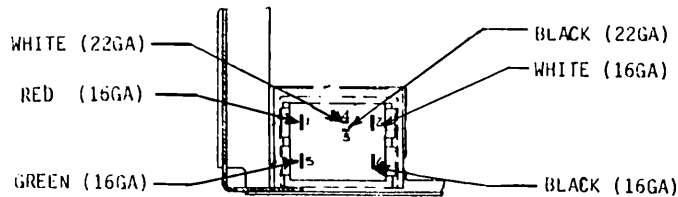

Figure 4-15. Rear View of Switch
9. Viewing the switch from the back of the unit, connect the terminal lugs to the switch as shown in Figure 4-15.